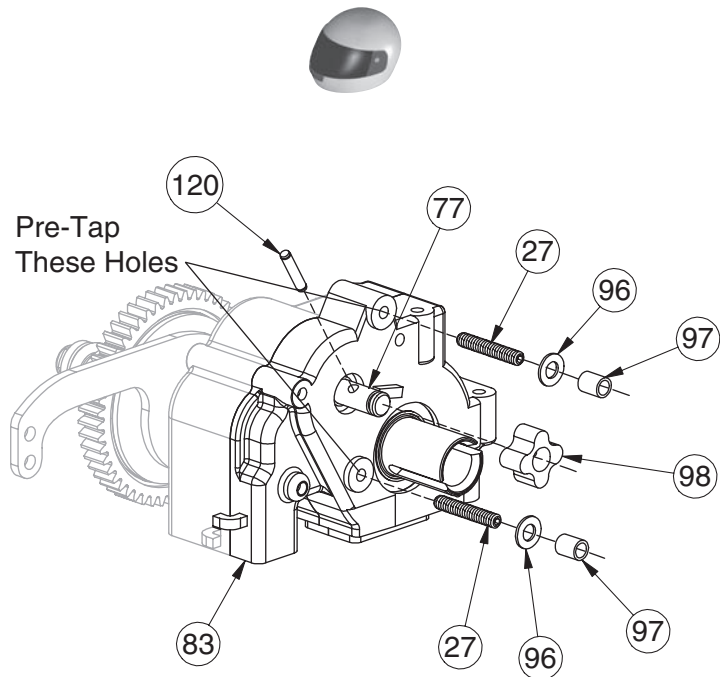

Figure E-16
- ❑ 1. Press the 2mm x 8mm Solid Pin (120) into the hole in the end of the Brake Shaft (77) so that it extends evenly from both sides of the Shaft.
- ❑ 2. Slide the Brake Hub (98) over the Brake Shaft. Align the groove in the Brake Hub with the Pin and slide the Hub over the Pin.
- ❑ 3. Use the short, 4-40 Thread-Cutting Screw, included in the wrench bag, to pre-tap the three holes shown in Figure E-16.
- ❑ 4. Thread the two 4-40 x 5/8" Set Screws (27) all the way into each of the two Brake Caliper mounting holes in the left Gearbox Half (83).
- ❑ 5. Slip a 1/4" x .020 Washer (96) and a Brake Sleeve (97) over each of the two 4-40 x 5/8" Set Screws.